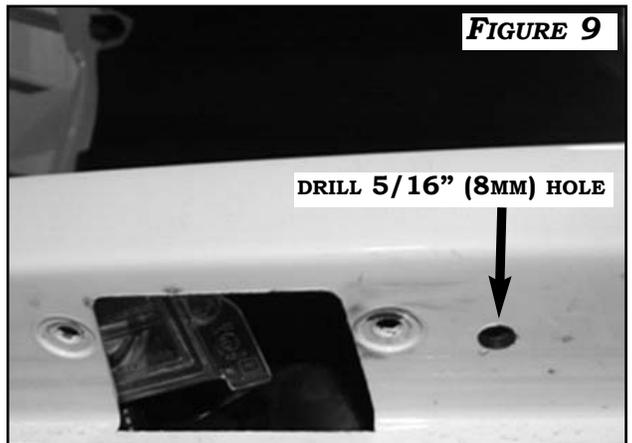

FIGURE 9
2. DRILL A 5/16" (8MM) HOLE IN THE AREA TO THE RIGHT OF THE LICENSE PLATE LIGHT ASSEMBLY (DODGE CHARGER SHOWN). **FIGURE 9**. FOR DODGE JOURNEY, LOCATE AN AREA CLOSE TO REAR CENTER OF THE VEHICLE TO MOUNT THE CAMERA. BE SURE THAT THE LOCATION CHOSEN IS ACCESSIBLE FROM THE INTERIOR OF THE VEHICLE TO PROVIDE ACCESS TO SCREW ON THE NUT FOR THE CAMERA.